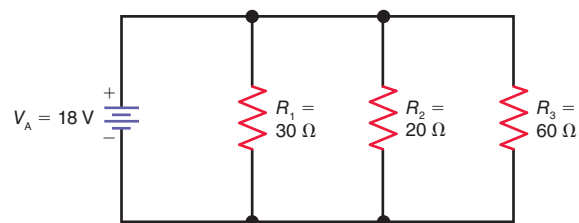

Figure 6-17
- 6.6 In Fig. 6-17, solve for the branch currents I_1 , I_2 , and I_3 .
- 6.7 In Fig. 6-17, do the branch currents I_1 and I_3 remain the same if R_2 is removed from the circuit? Explain your answer.
- 6.10 In Fig. 6-17, solve for the total current, I_T .
- 6.19 In Fig. 6-17, solve for R_{EQ} .